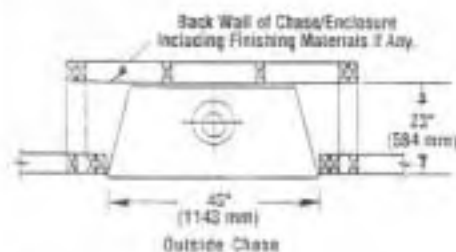

Figure 5
Step 1. Frame appliance enclosure as illustrated in Figures 5 through 8 on page 4.